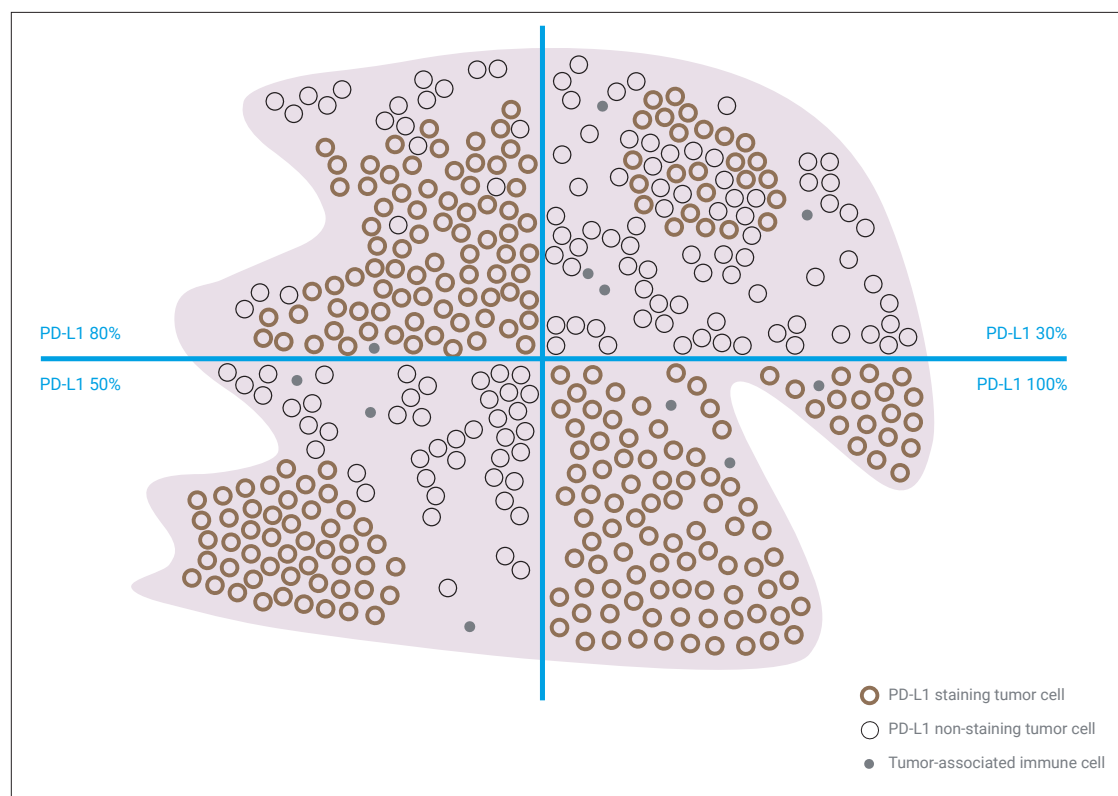

Figure 8. Example with heterogenous PD-L1 staining area.
- The tumor area is divided into four equivalent quadrants in Figure 8.